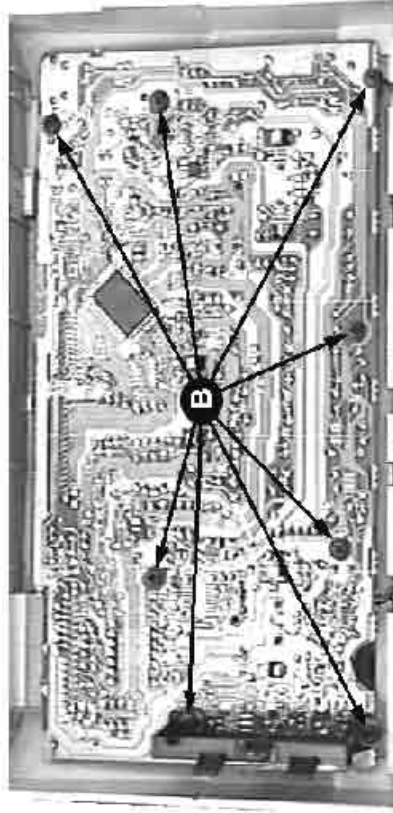

Figure 5
- 4) Loosen 6 screws B to remove the Front board as shown in Figure 5.